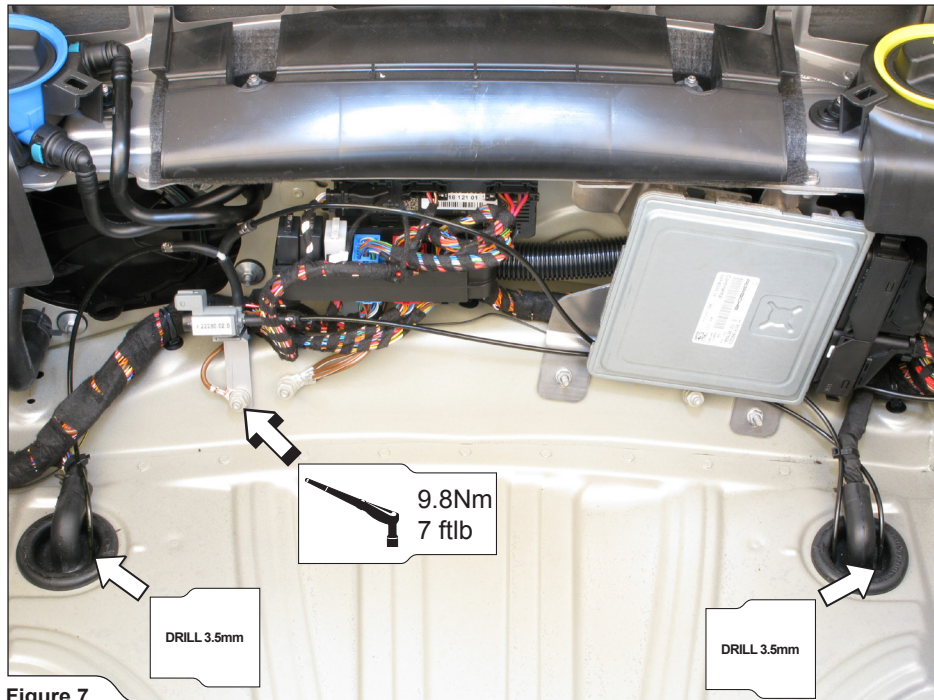

Figure 7
7. Attach the Akrapovič electromagnetic valve to the chassis (using marked ground wire' fixation nut) and connect it with the PVC vacuum hose from the engine compartment (using 4cm connecting hose). Link the two actuators' hoses to valve's outlet (using three 4cm connecting hoses and plastic Y piece distributor) and lead them through the rubber plugs (**Figure 7, 8, 9**).